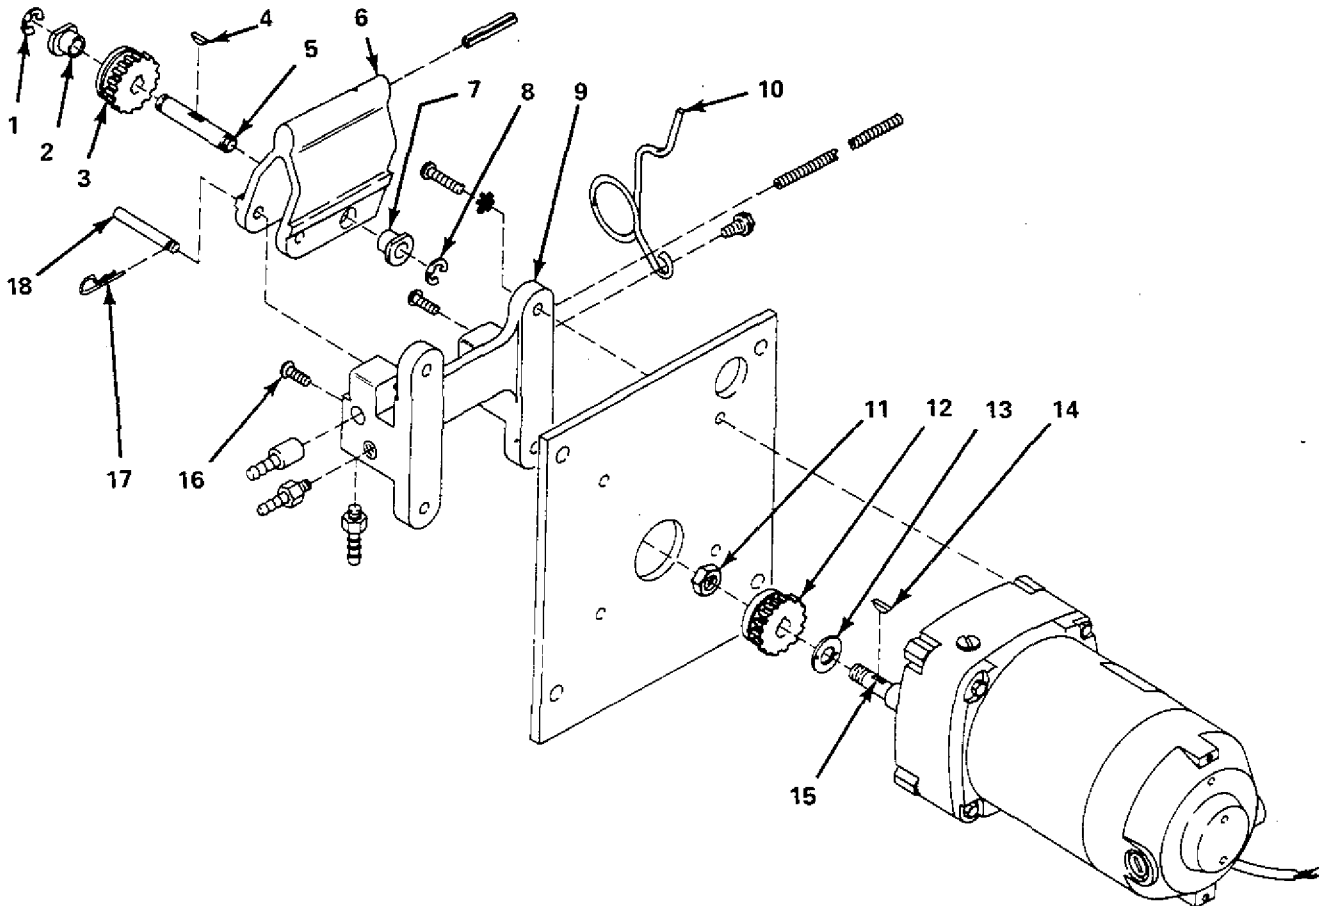

Figure 5-2. Drive Roll Gear Removal & Installation
7. Tighten securing screw (1) on the drive assembly.
8. Bend the gun cable until a portion of the monocoil is exposed out of the gun head tube. Place gun connector (4) onto exposed end of monocoil and rotate in gun head tube in a clockwise direction.
9. Tighten set screw (2) in gun holder.
10. Push nozzle (5) back onto the gun.
**5-3. REMOVAL OF DRIVE ROLL GEARS (Figure 5-2)**
1. Grasp tension spring (item 10, Figure 5-2) at the top and pull tension spring (10) outward until it disengages from cover (6).
2. Remove pin (17) from the back side of shaft (18).
3. Pull out shaft (18) from drive roll cover (6) and lift off drive roll cover (6).
4. Pull off snap rings (1 & 8) from shaft (5).
5. Pull out bearing (2) from drive roll cover (6).
6. Slide shaft (5) out of drive roll cover (6) until drive roll gear (3) drops out.
7. Ensure that key (4) remains in the slot in shaft (5).
1. Remove nut (11) from drive shaft (15).
2. Slide drive roll gear (12) off of drive shaft (15).
3. Ensure that key (14) remains in the slot in drive shaft (15).
**5-4. INSTALLATION OF DRIVE ROLL GEARS (Figure 5-2)**
1. Place drive roll gear (3) inside of cover (6) ensuring that the tooth side of drive roll gear (3) is toward the back side of cover (6).
2. Align key (4) in shaft (5) with keyway in drive roll gear (3) and slide shaft (5) through drive roll gear (3) and cover (6).
3. Install bearing (2) into cover (6).
4. Install snap rings (1 & 8) back onto front and rear ends of shaft (5).
5. Place cover (6) onto drive assembly base (9) and align the holes in cover (6) with the hole in drive assembly base (9).
6. Insert shaft (18) through cover (6) and drive assembly base (9) until the groove in shaft (18) is exposed out of the back side of drive assembly base (9).
7. Insert Pin (17) onto groove in shaft (18).